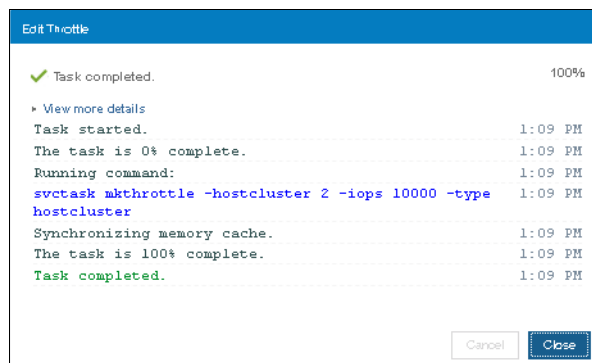

Figure 5-120 IOPS throttle set
- Click **Create**. A window will open indicating the task of setting up the throttle completed as shown in Figure 5-120.